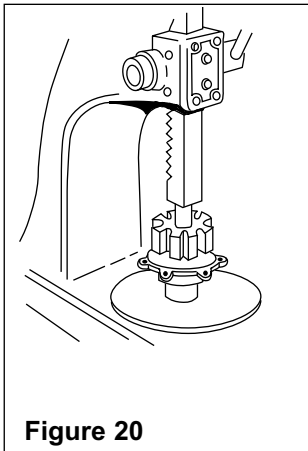

Figure 20
1. Install the shaft rotor assembly by carefully pushing the short end of the shaft rotor assembly through the shaft seal into the end plate. Place in the arbor press with the drive end of the shaft pointed down. Use the Bearing Support Tool on top of the bearing and press the assembly together. (Figure 20). Leave just enough clearance between the rotor and end plate so that rotor can be turned by hand. If it turns too freely, sand a little more off the body end that faces the end plate. You should notice a slight drag, but be able to turn shaft with an adapter on it by hand. The "slight drag" will wear off after the pump has been used a short time. Installing new rollers, seals, bearings and shafts will not prove entirely satisfactory for volume and pressure unless end clearance is taken up.